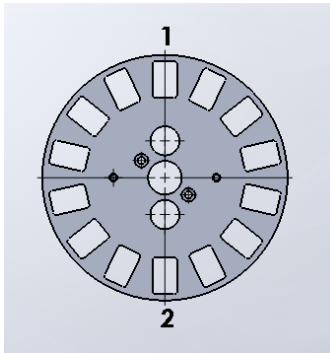

FIG. 37 – FIN INSTALLATION
13. Repeat step 12 for remaining fins, making sure to install fins in an opposite pattern in order to keep the fixture balanced as shown below in FIG. 37.